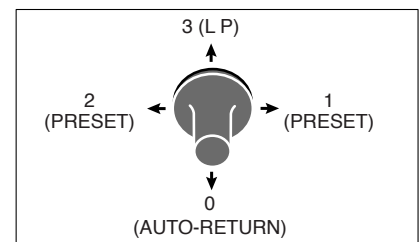

Fig. 5-4 Chair Auto-mode Control
2) Chair Auto-mode Controls (See Fig. 5-4.)